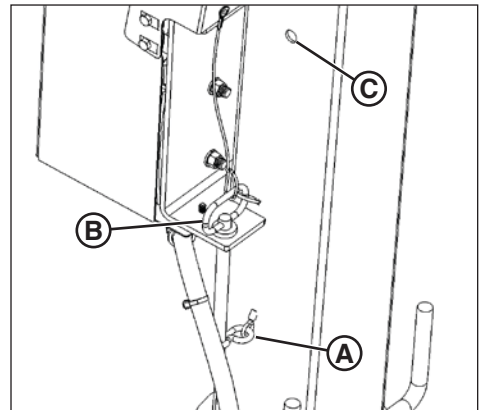

Figure 12
7. Remove the hair pin cotter (A, Figure 12) and tower mast locking pin (B) from the stowing hole shown in Figure 12. Insert the tower locking pin in the locking hole (C), and secure with the hair pin cotter.
2. Remove the hair pin cotter and tower locking pin from the hole in the tower. Place the tower locking pin in the stowing hole and secure with the hair pin cotter. See Figure 12.